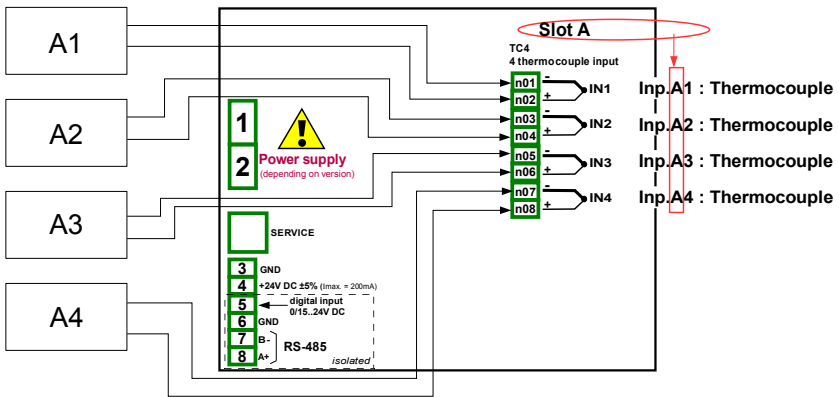

Fig. 7.63. Schematic diagram for the **TC4** module
Before measuring temperature the thermocouple sensors should be connected to the device. An example of how the connection is shown in **Fig. 7.63** (see also **Appendix 8.5. TC4, TC8, TC12 – THERMOCOUPLE SENSOR MEASUREMENT MODULES**).
- Source parameter set as **Inp. A1: Thermocouple** (see the connection in **Fig. 7.63**),
- Source parameter set as **Source - Inp. A2: Thermocouple** (see Fig. 7.63),
- Source parameter set as **Source - Inp. A3: Thermocouple** (see Fig. 7.63),
- Source parameter set as **Source - Inp. A4: Thermocouple** (see Fig. 7.63),